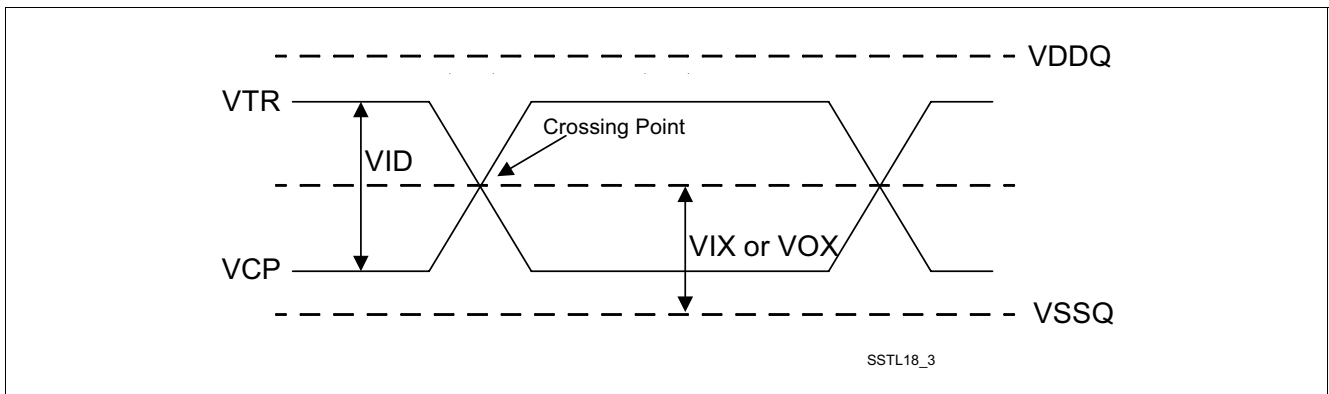

**Figure 64 Single-ended AC Input Test Conditions Diagram**
- 2) The input signal minimum Slew Rate is to be maintained over the range from  $V_{IH(ac).MIN}$  to  $V_{REF}$  for rising edges and the range from  $V_{REF}$  to  $V_{IL(ac).MAX}$  for falling edges as shown in Figure 64